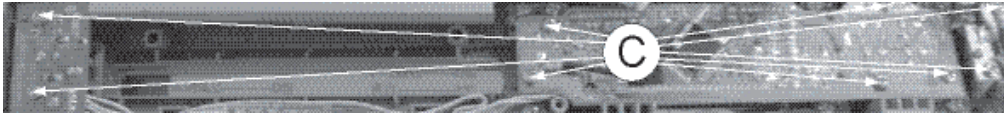

Figure 6
- 1) Loosen 9 screws "C" at top of control board as shown in figure 6